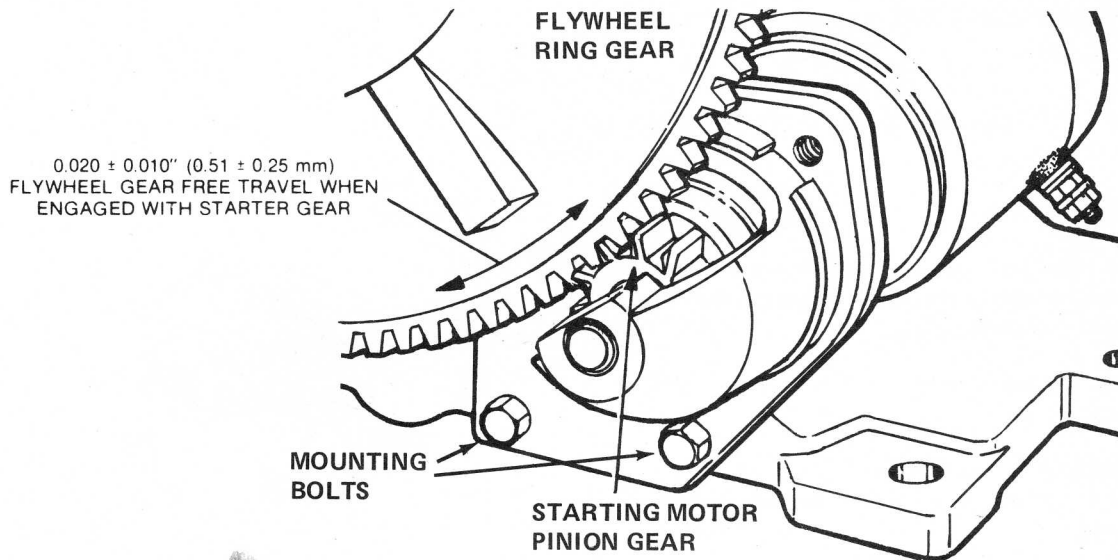

FIGURE 12 Checking Starter Gear Lash
4. Measure the amount of free travel, or lash, between the pinion gear teeth and the ring gear teeth, as shown in Figure 12. The proper lash is 0.020 ± 0.010 (0.51 ± 0.25 mm). Loosen and adjust the starter motor as necessary to obtain the correct setting.